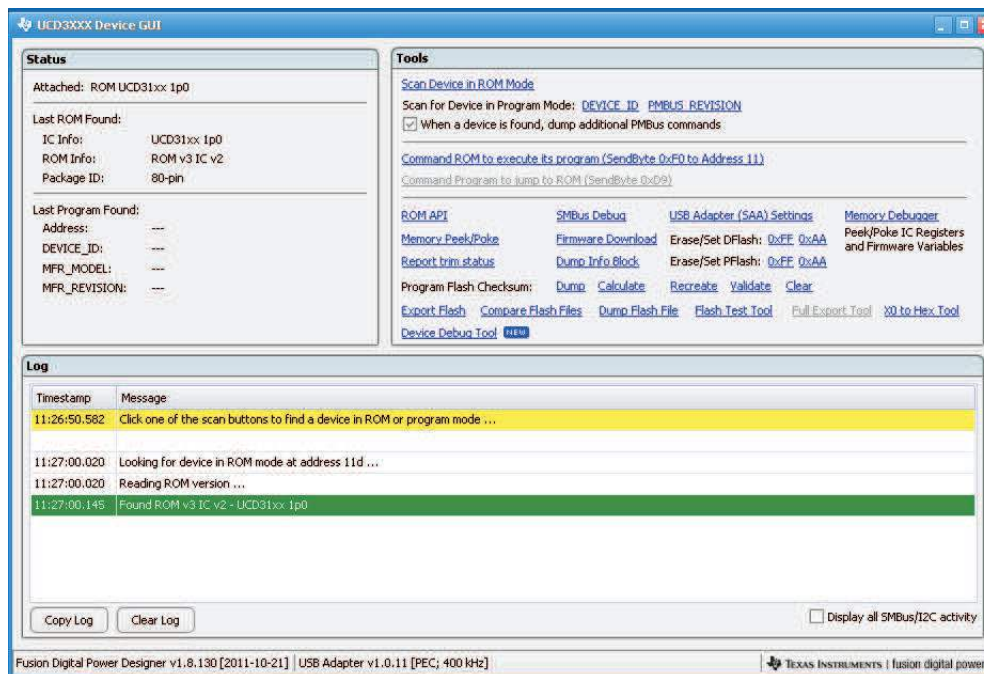

Figure 6. UCD31xx Device GUI
3. Launch the UCD31xx device GUI following the steps described in Section 6.1.3. The window shown in Figure 6 appears.
Erasing the downloaded firmware codes from UCD3138 flash memory can be made with the steps below based on Figure 6.